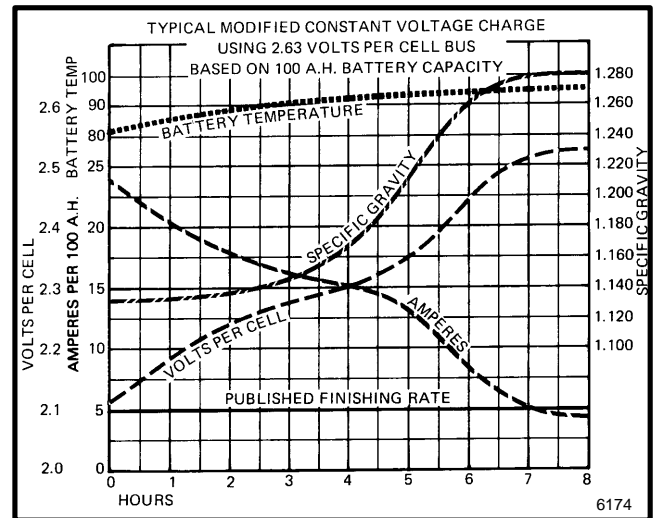

FIGURE 21. MODIFIED CONSTANT VOLTAGE CHARGER
2. **MODIFIED CONSTANT VOLTAGE.** This method uses a generator to generate a constant voltage that is controlled by a resistor. When the charging current decreases, the voltage across the resistor increases. The increasing voltage across the resistor causes an increasing voltage at the battery terminals. The charging is similar to the gradual charge. The resistor must be correctly set or the charging rate will be wrong. The typical graphs for a modified constant voltage charger is shown in FIGURE 21.